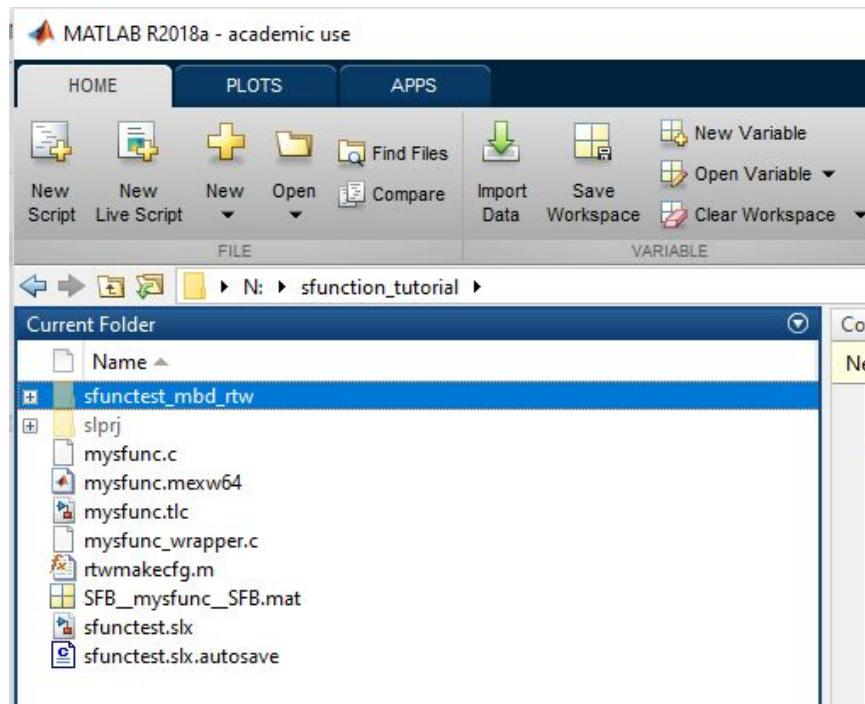

Figure 12: Matlab file browser.
- (a) In your Matlab file browser you should see a new folder ending in \_mbd\_rtw (See figure 12).